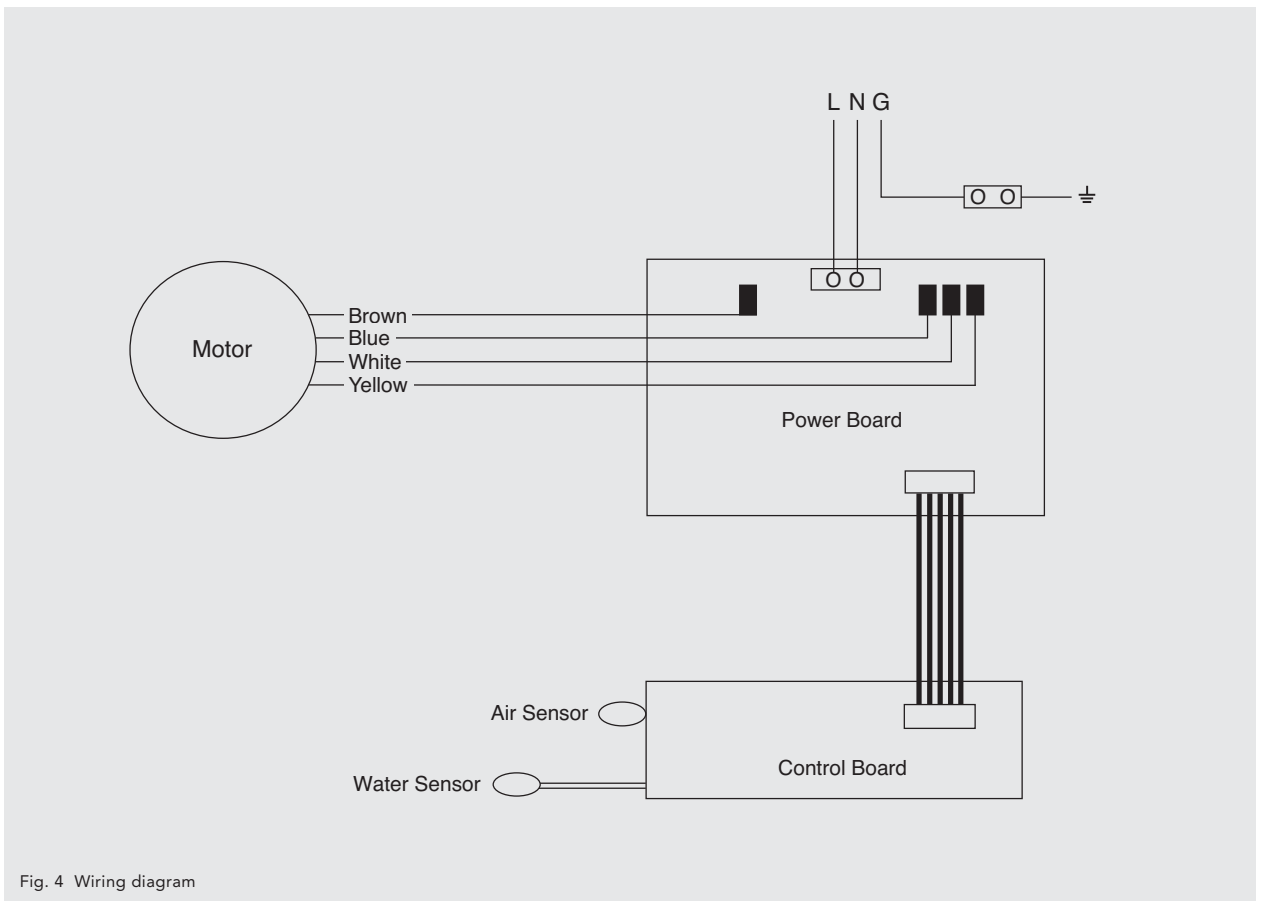

Fig. 4 Wiring diagram
- Change switch 1 position according to requirements (see fig. 4).